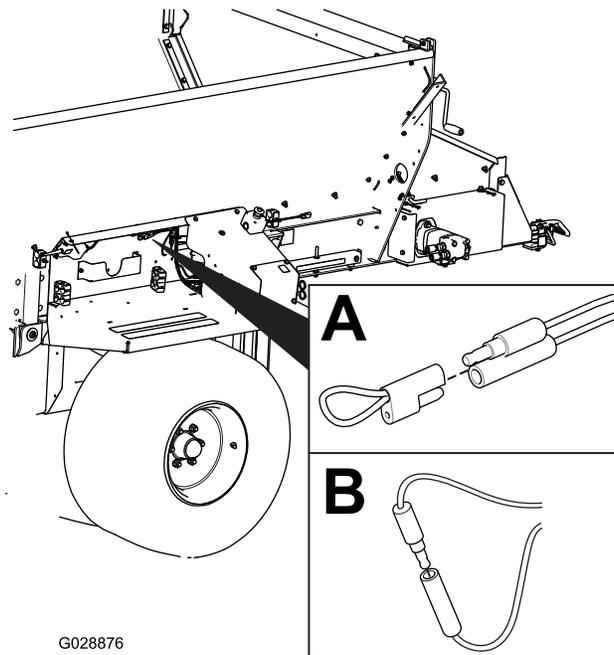

Figure 58
2. Pull the tethered cap off the two diagnostic, shunt connectors (Figure 58, A).
3. Connect the diagnostic, shunt connectors together (Figure 58, B).